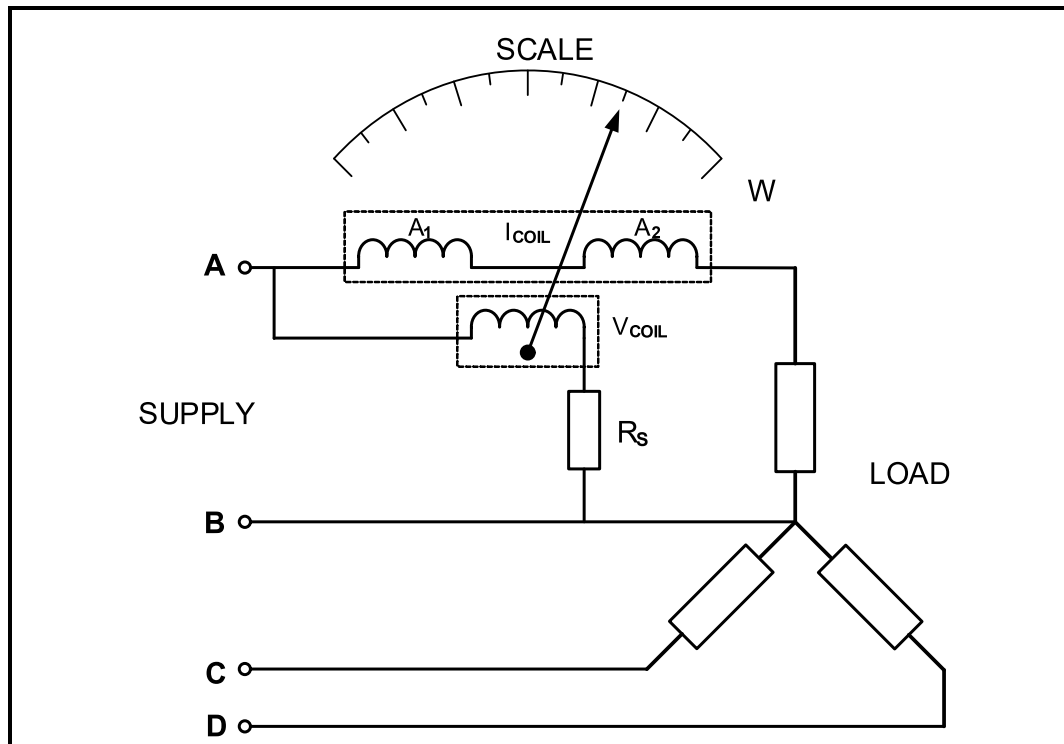

FIGURE 4.5: ANALOGUE WATTMETER
- 4.5 FIGURE 4.5 below shows the diagram of an analogue wattmeter connected to a phase of a three-phase star-connected system. Answer the questions that follow.